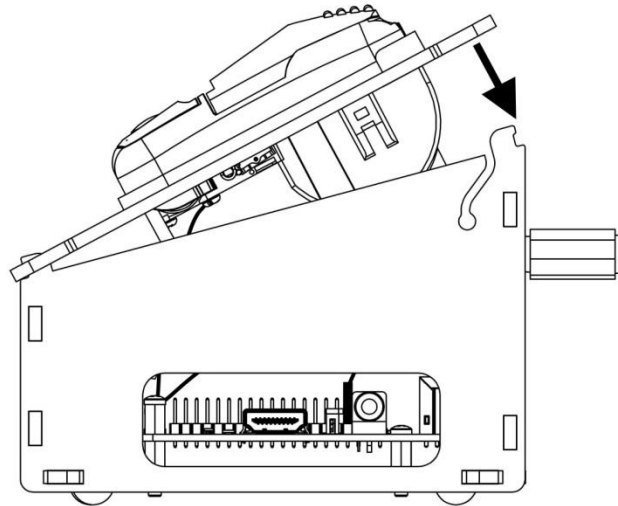

Figure 11
- 19) Pinching the left and right sides at the front in order to keep the unit together, lift the body and top plastics and place the unit on its rubber feet. Hook the top plastics over the front lugs as shown in *Figure 11*. Do not worry about the unconnected cables at this time!
- 20) Checking that the cables have not become dislodged from their respective notches, lower the lid down to engage with the rear snap hooks before pressing the top plastics firmly into place, as shown in *Figure 11*.